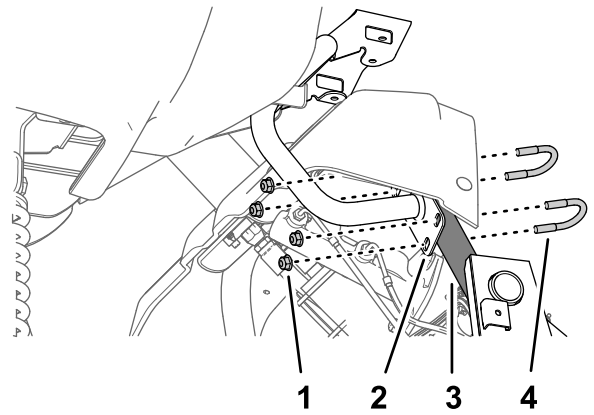

Figure 162
3. Assemble the plate of the monitor mount to the support tube of the machine chassis (Figure 162) with the 2 U-bolts and 4 flange locknut (5/16 inch).